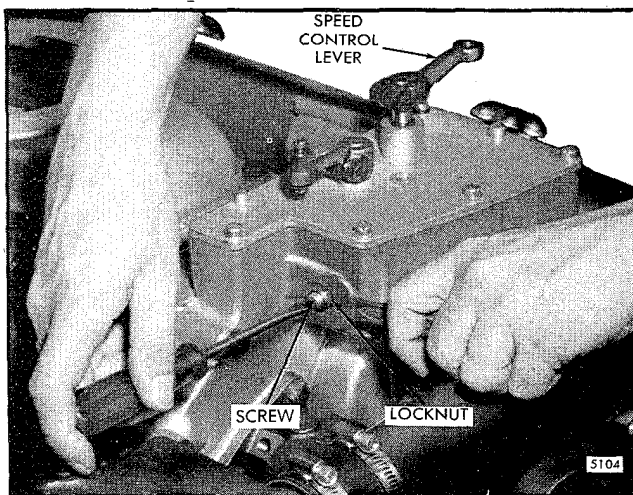

Fig. 10 - Adjusting Buffer Screw
1. With the engine running at normal operating temperature, turn the buffer screw IN so it contacts the differential lever as lightly as possible and still eliminates engine roll (Fig. 10).
2. Back out the buffer screw (Fig. 10) until it extends approximately 5/8 " from the lock nut.